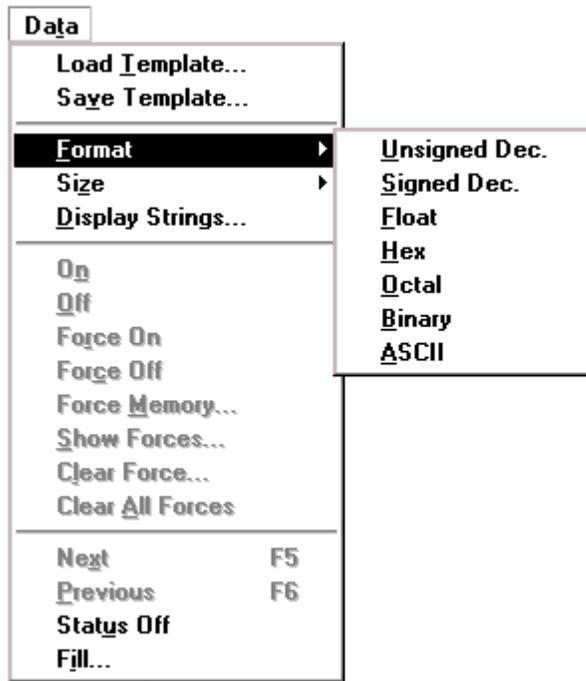

Figure 6.8
1. **D**ata **F**ormat is available for byte, word and double word addresses. Select **F**ormat from the **D**ata menu while in the **D**ata **W**indow. The **D**ata menu is available only while in the **D**ata **W**indow. The **F**ormat dialog box appears (Figure 6.8).